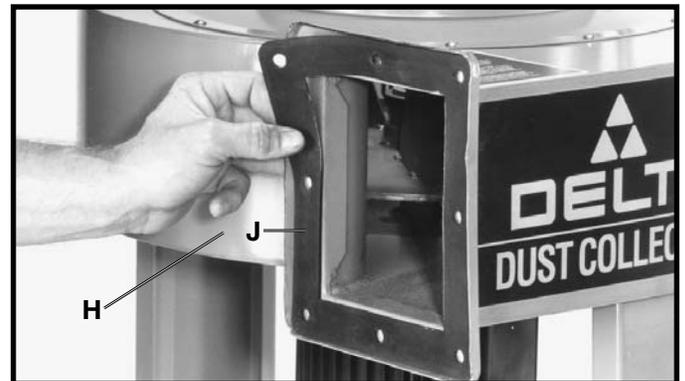

Fig. 12
7. Align holes in gasket (J) Fig. 12, with the mounting holes in blower flange (H) and press gasket (J) onto motor flange.